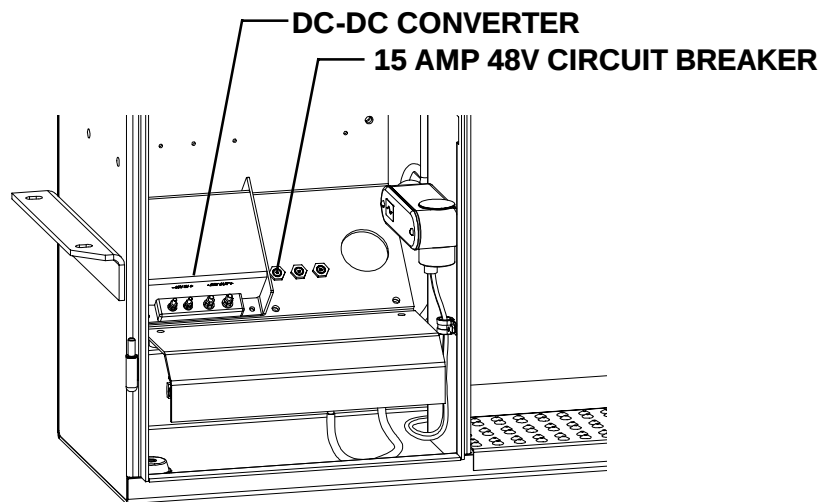

Figure 1-3
Step 7. Locate the DC-DC Converter. Find the wire #03 of the Charger Interlock Harness, attached to the "48V IN +" terminal, and remove it (**Refer to Figure 1-3**).